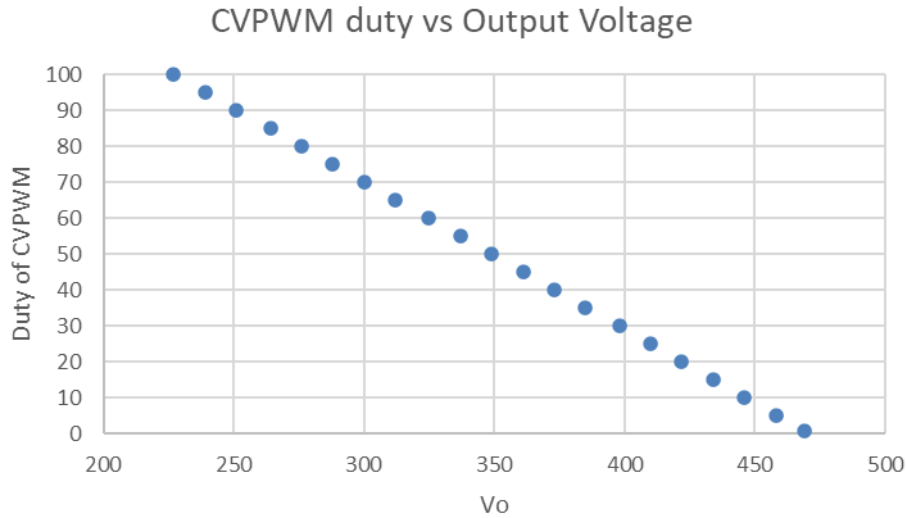

Figure 7. The Curve of the Output Voltage vs. the CVPWM Duty
In G to B mode, U30 operates under the normal closed loop. The upper resistors for the battery voltage divider are located on the power board, and this information is sent to the control board through the *VSAF* signal. The lower dividing resistor is R56. The output voltage setting PWM signal *CVPWM* is filtered by R20 and C25, then the dividing ratio is changed through R21. The output voltage varies according to the *CVPWM* duty cycle. The curve of the *CVPWM* duty cycle and the battery voltage is shown on Figure 7. R31 provides a little bit bias to make sure the voltage on the FB pin is higher than the SS pin before the converter power-up. Without R31, the COMP voltage may go high too fast at startup and trigger the OCP.
3. Set the *CVPWM* duty cycle targeting 1.5x of the battery voltage according to figure 7, to make sure the FB voltage is between 1.2 – 2.4 V.